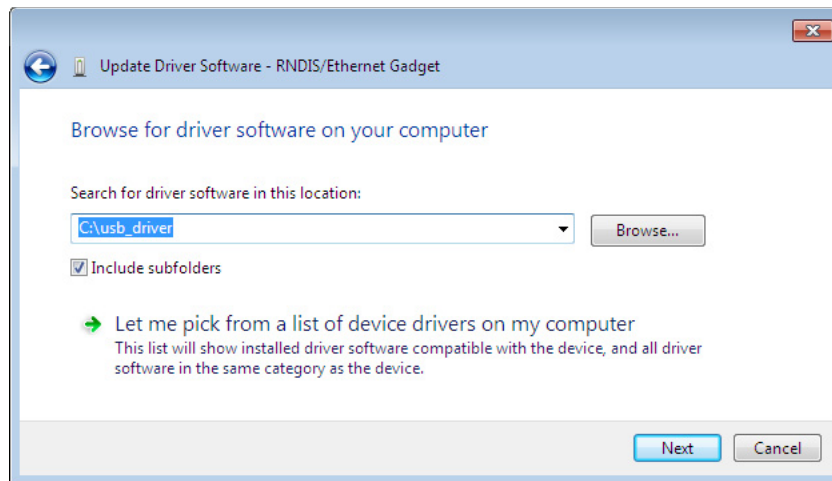

Figure 19. Update Driver Software Window – Browse for Driver Software
8. Click **Open**. The folder displays in the **Search for driver software in this location** box (see Figure 19).